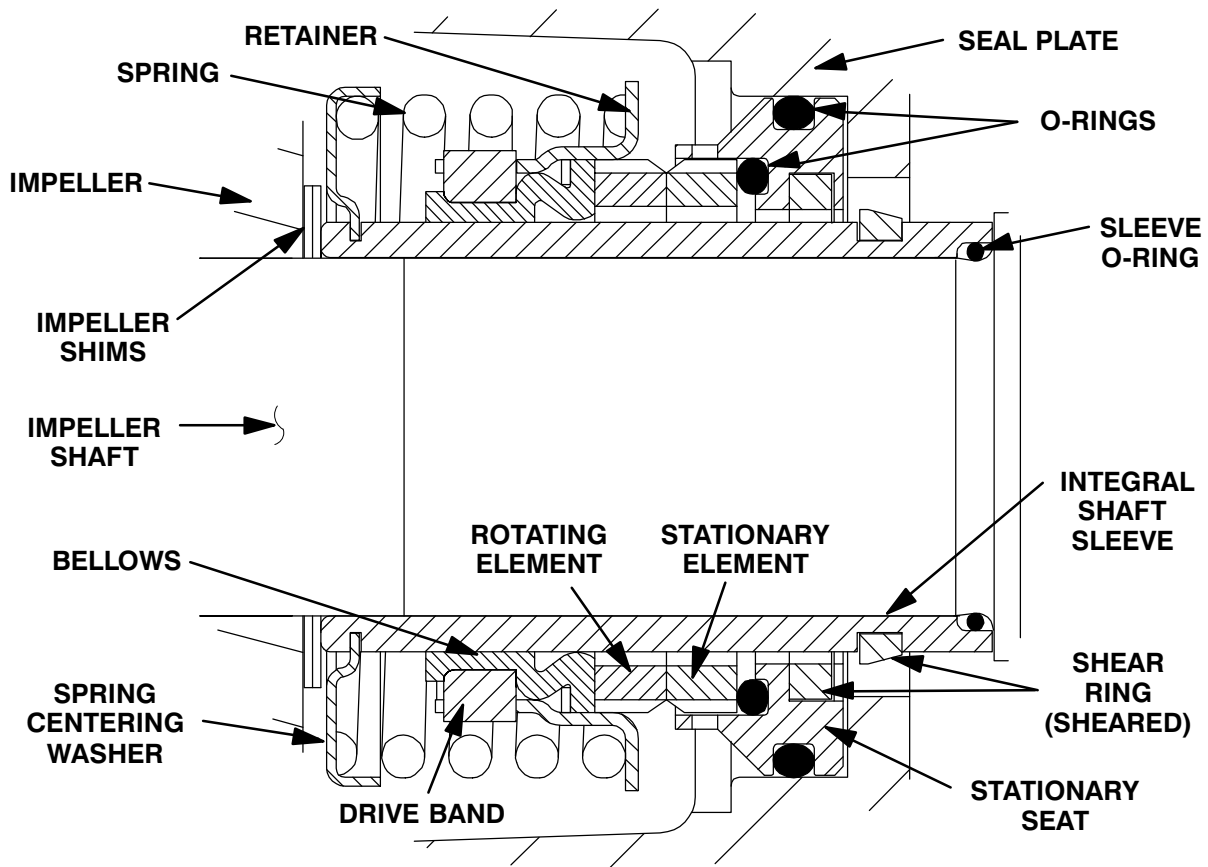

FIGURE 5. Cartridge Seal Assembly
To ease installation of the seal, lubricate the shaft sleeve O-ring and the external stationary seat O-ring with a very **small** amount of "P-80" Emulsion" or water. See Figure 5 for seal part identification.
Clean and inspect the impeller as described in **Impeller Installation and Adjustment**. Install the full set of impeller shims (27) provided with the seal, and screw the impeller onto the shaft until it is seated against the seal (see Figure 5).